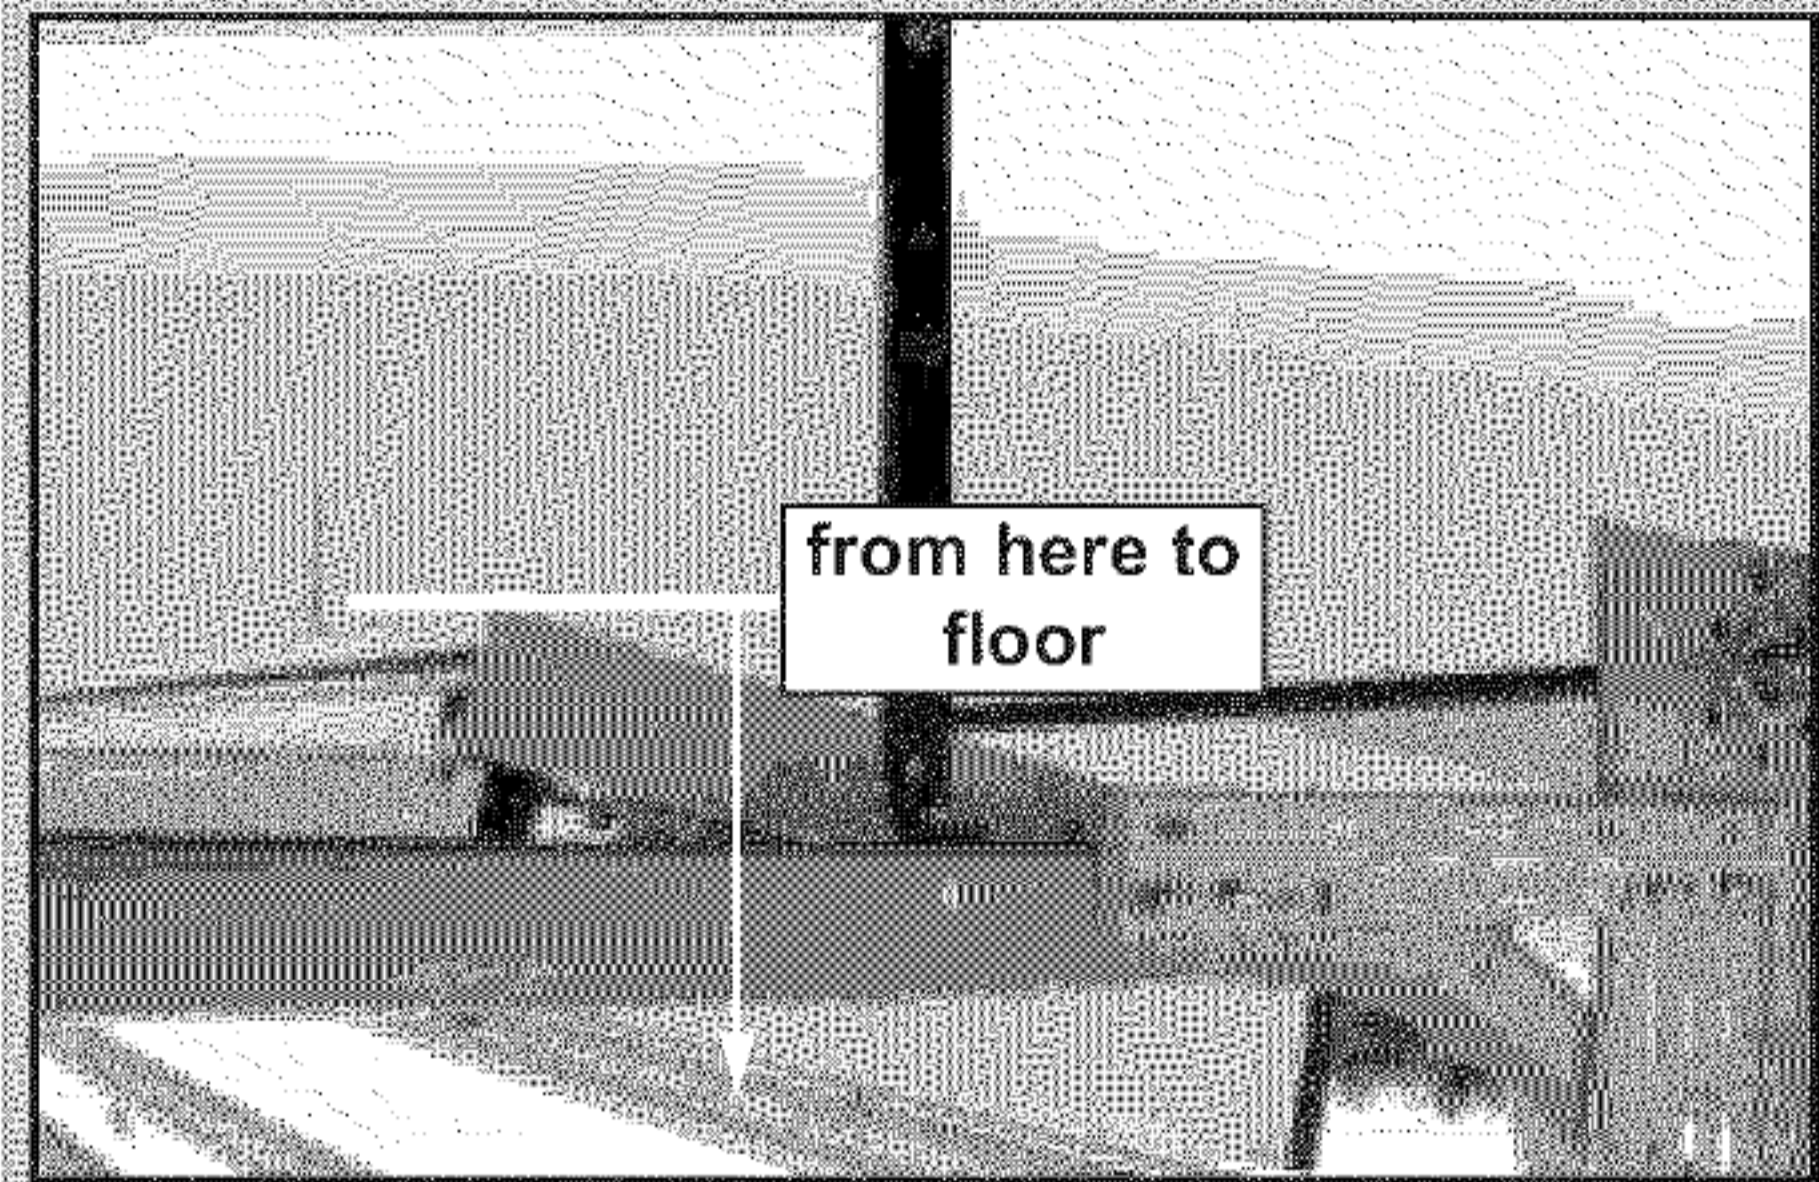

FIG. 2-1 Finding highest point of travel (sectional)
- b. Continue this line on wall above door for about 12" (Fig. 2-1).